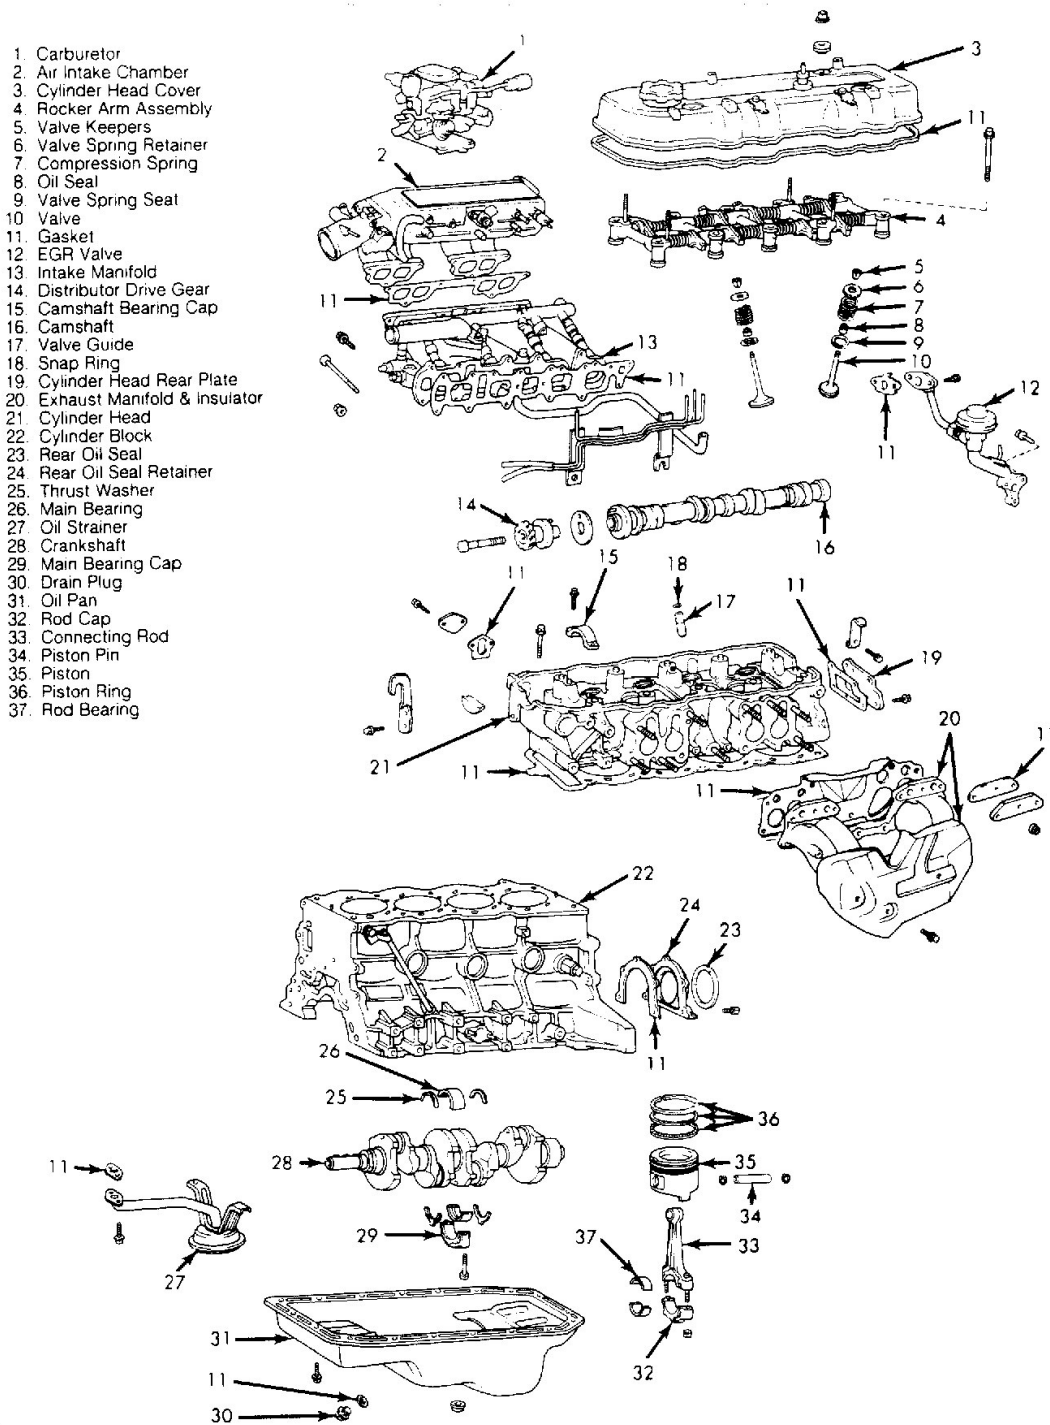

Fig. 2: Exploded View of Cylinder Head & Cylinder Block Components
3. Remove power steering pump and set aside (if equipped). On fuel injected vehicles, remove EGR modulator with bracket and air intake chamber with throttle body. See **Fig. 2** . Disconnect and label all fuel injection wiring and linkages for reassembly reference.